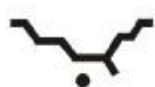

Fig.6
- I When this indicator light illuminates (Fig. 6), the machine is on function of static balance, suitable for motorcycle wheel or wheels that the balance weight cannot be attached on.